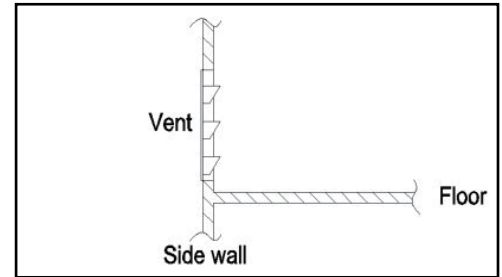

FIG 4
- a) The refrigerator shall be installed using the combustion vent (FIG 4)